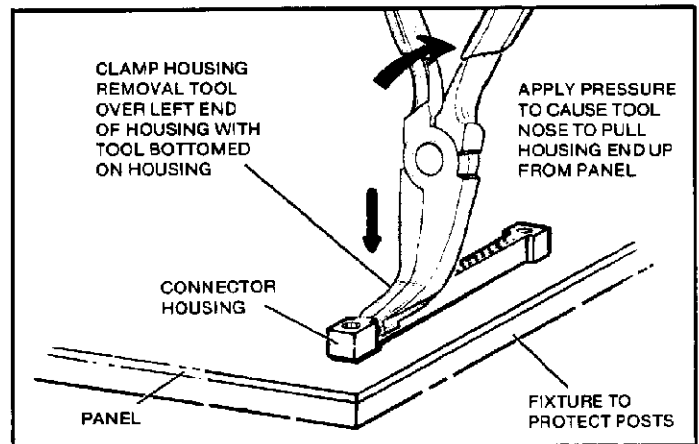

Figure 2
- (a) Clamp tool over left end of connector housing, as shown in Figure 2, with nose of tool bottomed on connector housing.